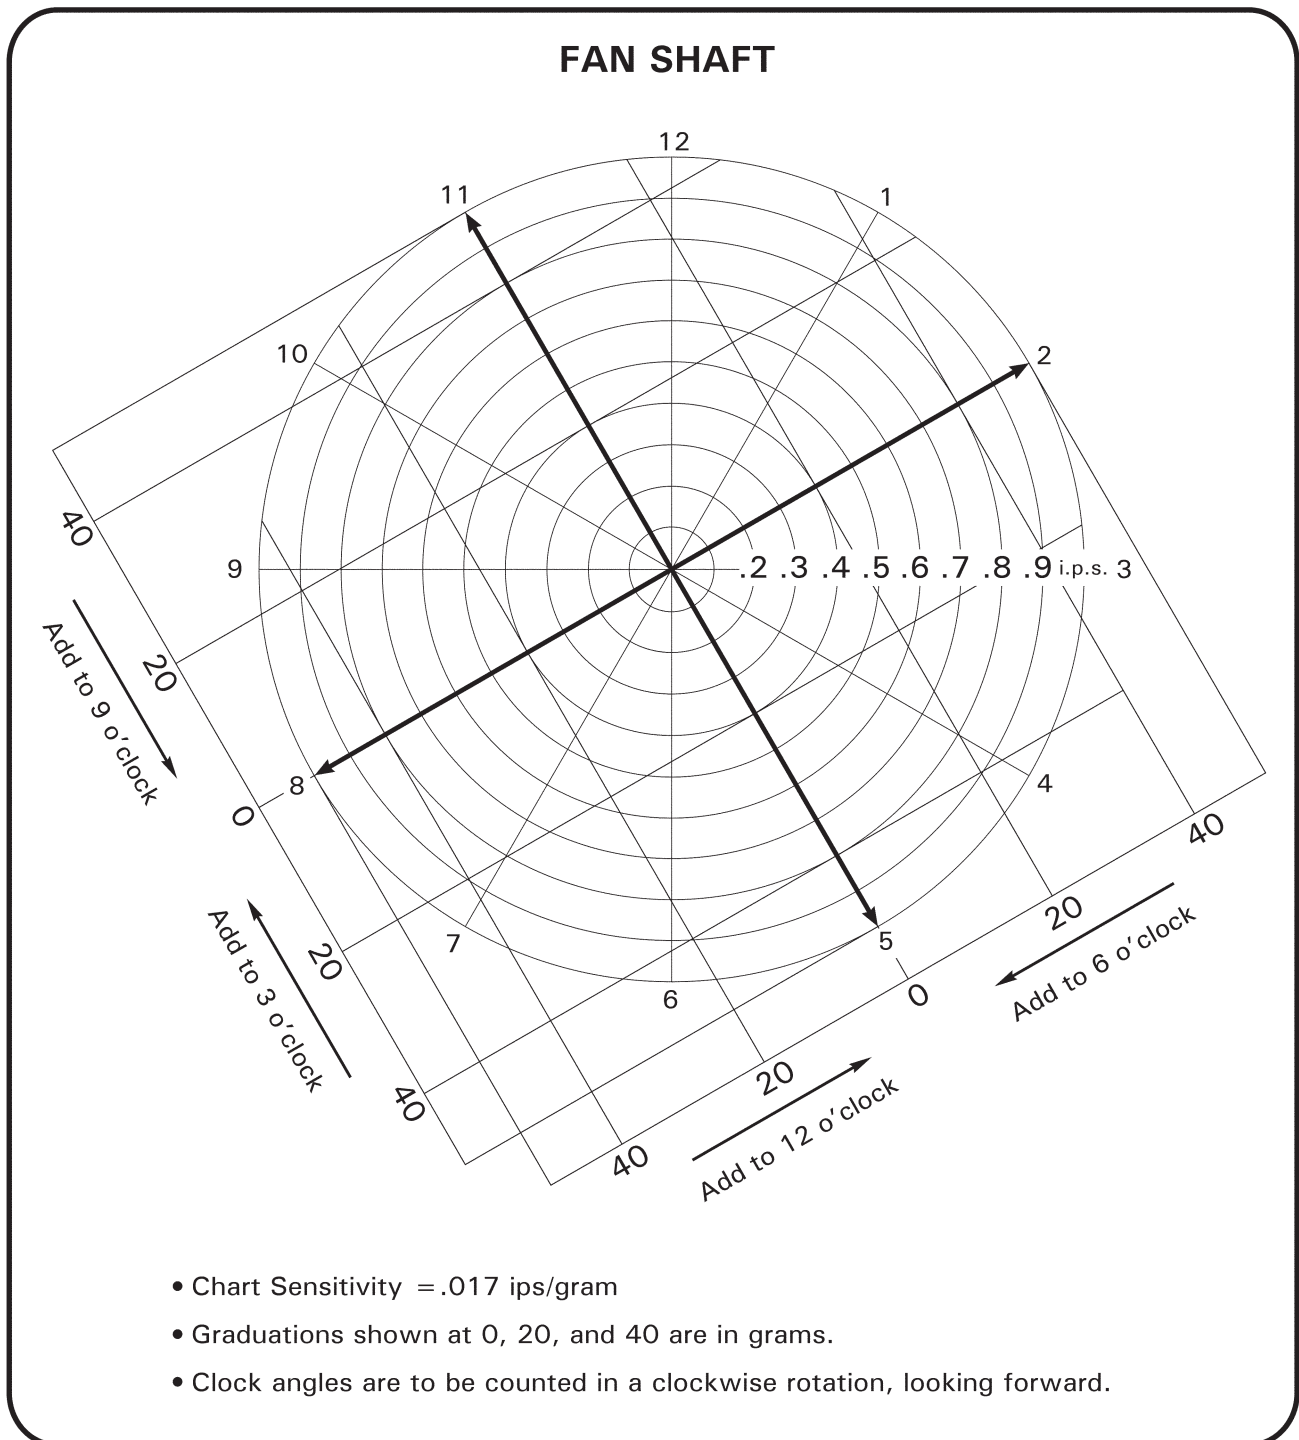

FIGURE 18-13 FAN SHAFT BALANCING CHART
1. Fan Shaft: Refer to Figure 18-13. Adjust balance by selecting one or more NAS1149D0463J, NAS1149F0432P, NAS1149F0463P, A214-3, or A141-14 washers as required and install under one nut of intermediate flex plate (tail rotor driveline) fastener. Standard torque fasteners per § 20-32, but do not torque stripe.